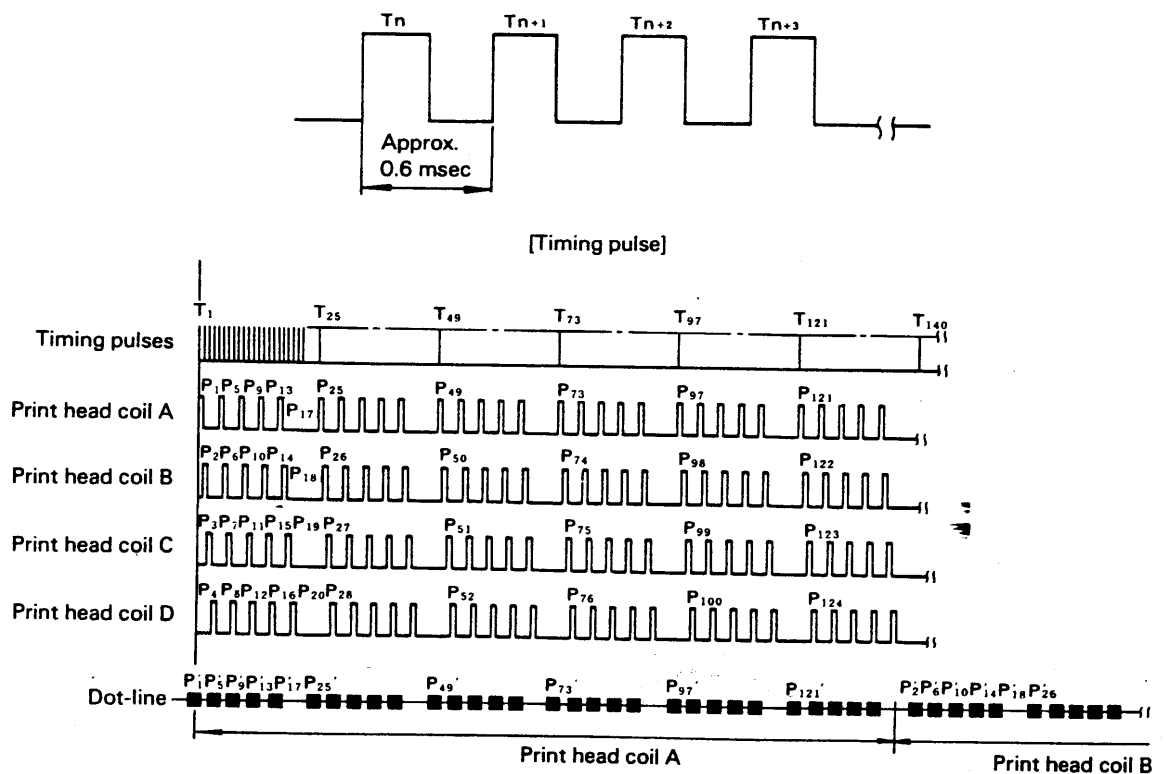

Fig. 1.9 Print Timing Chart
- 1 When the coil of a coil unit in the print head is energized, the associated plunger is attracted by the core (arrow ①). As the push rod is securely fitted in the plunger, it is pushed by the plunger in the direction of arrow ②.
- 2 The push rod then pushes the corresponding printing lever placed on a shaft (fulcrum) in the print head carriage in face of the platen, and consequently the lever is made to turn round the fulcrum in the direction of arrow ③.
- 4 When the print head coil is deenergized, the printing lever is returned to home position by the action of spring (arrow ④).
- How a dot-line is formed will be described referring to Fig. 1.9.